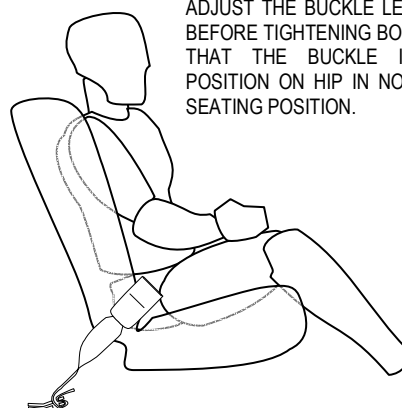

FIGURE 4
- Adjust the buckle length before tightening bolt so that the buckle is in position as shown in figure 4 on hip in normal seating position before mounting to vehicle structure.